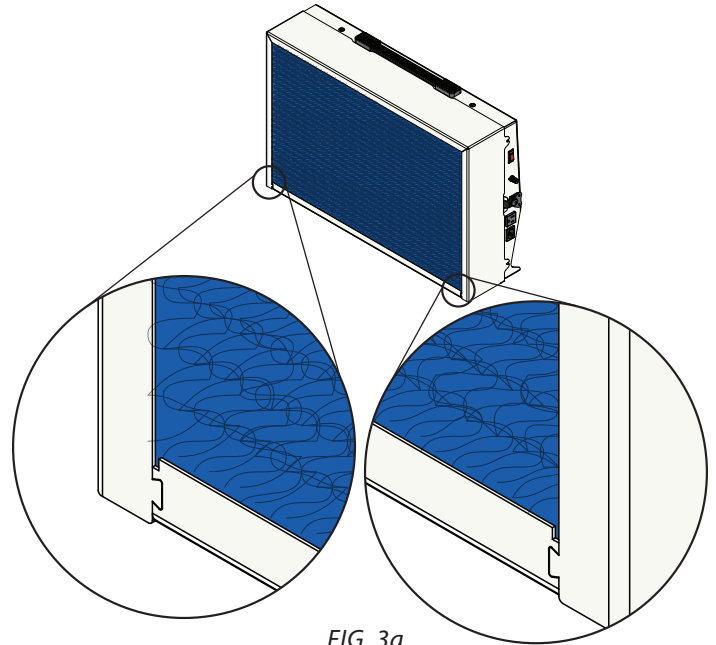

FIG. 3a
- a. Locate the lower notches on the front of the Frame Assembly. [FIG. 3a]